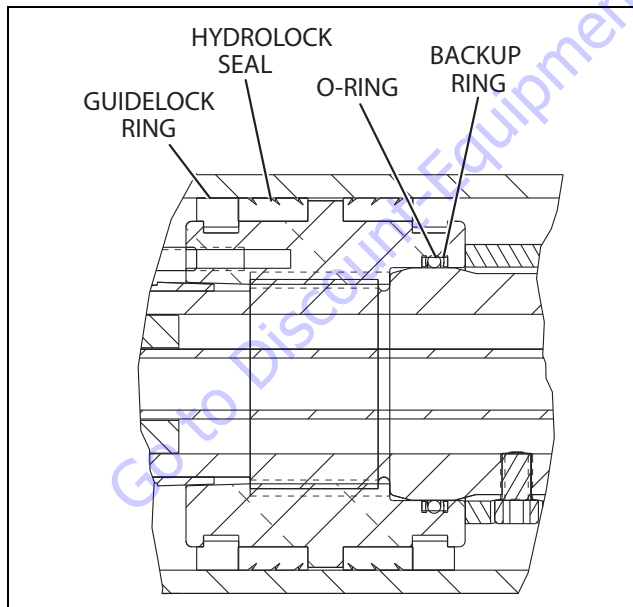

Figure 5-101. Piston Seal Kit Installation
- Thread piston onto rod until it abuts the spacer end and torque piston as shown in Figure 5-101. and Figure 5-91. Install the tapered bushing.